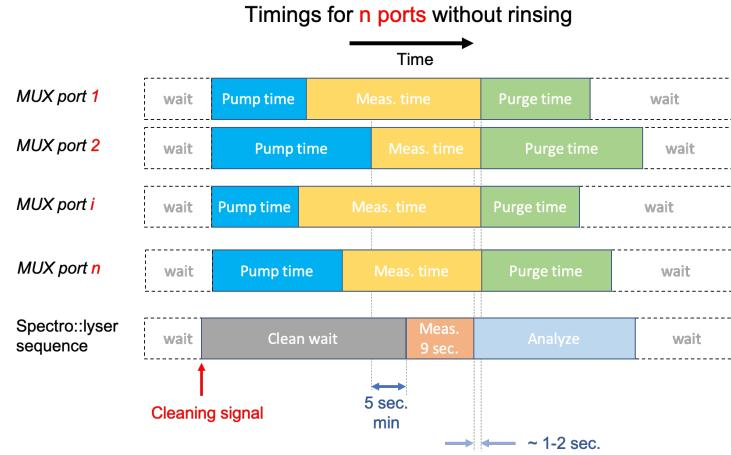

Figure 3.3: Adjusting the *pumping times* and *measurement times* of the MUX to match the sequence of events of the Spectro:lyser
1. In reality, the *pump time* may vary from sampling point to the next as it is preferable to pump the least amount of time per port to save energy and pump tubing. The *pump time* for each port is defined in the *config.txt* file. However, the *clean wait* time corresponds to a parameter from the Spectro:lyser, and the same value applies to all sampling points. As a result, the *clean wait* time **must correspond to the longest pump time + 5 seconds** (Figure 3.3).
2. Because it always takes the same amount of time between the *cleaning signal* and the last beep of the Spectro:lyser measurement, and, because the *pump time* may vary from one sampling point to the next, the (on the MUX side) **sum of pump time + the MUX measurement time** should also be the same and be equal to (on the Spectro:lyser side) **the clean wait time + the 9 sec. of measurement time + at least 2 seconds past the last measurement** (Figure 3.3).
As a result, the *pumping time* and the *measurement time* from the MUX must be adjusted (in the *config.txt* file) accordingly for each sampling point as illustrated in Figure 3.3